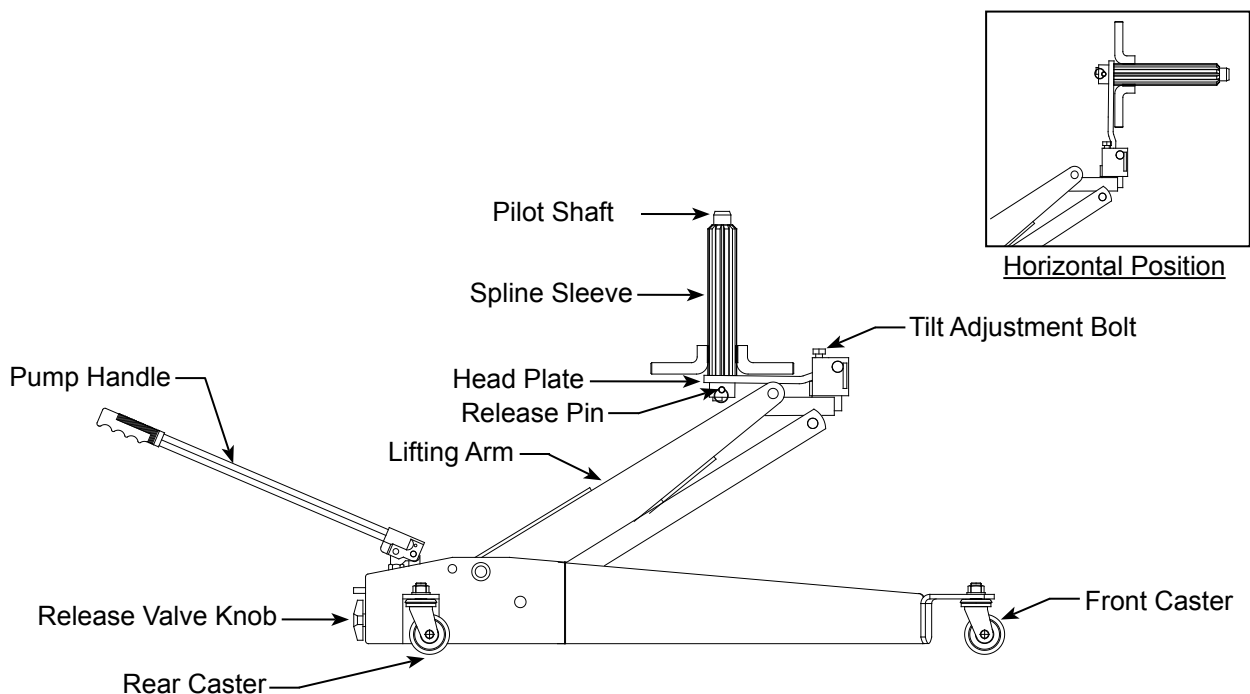

Figure 1 - Model 40500 Components
1. Verify that the product and the application are compatible, if in doubt contact your local Omega Technical Service (888) 332-6419.
3. To familiarize yourself with basic operation, locate and turn the release valve knob (see Fig 1):